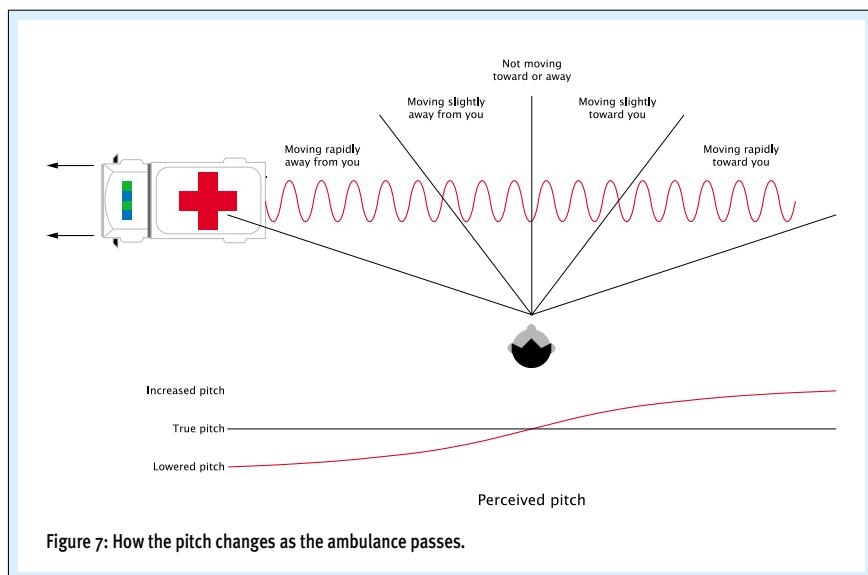

Figure 7: How the pitch changes as the ambulance passes.
- pitch describes some sort of curve as the ambulance passes. This is the case illustrated in Figure 7 (above).